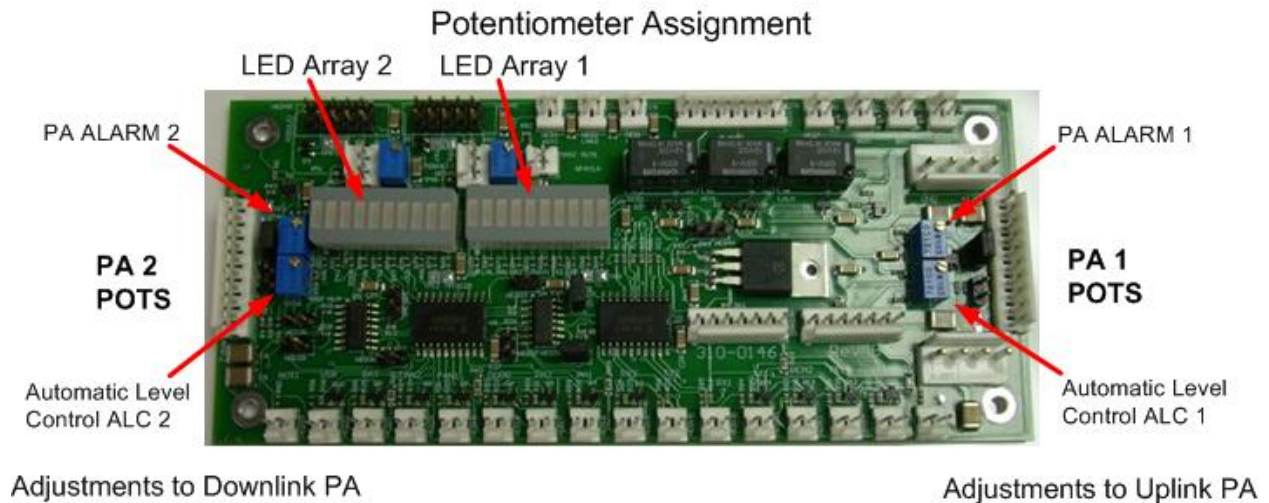

Figure 2
To set the Automatic Level Control (ALC) Clockwise (CW) will increase the RF dBm level. Counter Clock Wise (CCW) will decrease the RF dBm level. See Figure 2 to view the location of the potentiometers (pots). In the left section of the alarm PCB are the pots to adjust power amplifier (PA Alarm 2) for the downlink path. In the right section of the alarm PCB are the pots to adjust power amplifier (PA Alarm 1) for the uplink path.